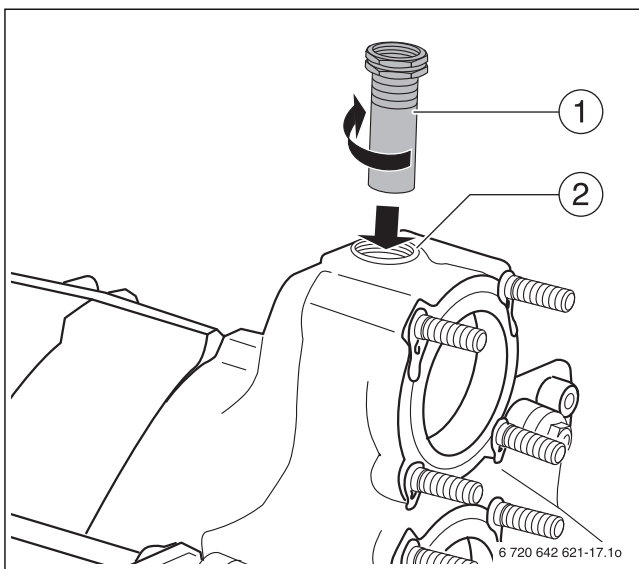

Fig. 22 Fitting the sensor well
- ▶ Seal sensor well R  $\frac{3}{4}$  (length: 110 mm) (Fig. 22, [1]) from the top into the R  $\frac{3}{4}$  tapped hole in the supply connection (Fig. 22, [2]).